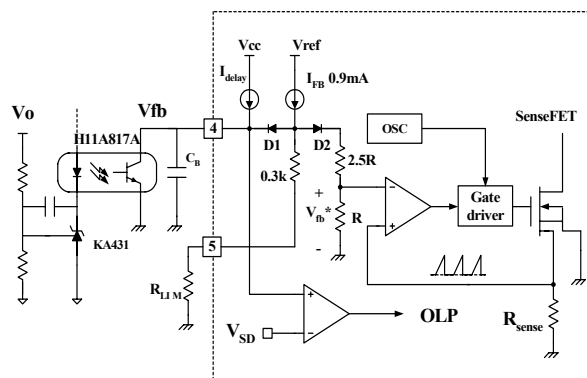

Figure 6. Pulse width modulation (PWM) circuit
**2. Feedback Control** : FSCM0765R employs current mode control, as shown in Figure 6. An opto-coupler (such as the H11A817A) and shunt regulator (such as the KA431) are typically used to implement the feedback network. Comparing the feedback voltage with the voltage across the Rsense resistor makes it possible to control the switching duty cycle. When the reference pin voltage of the KA431 exceeds the internal reference voltage of 2.5V, the H11A817A LED current increases, thus pulling down the feedback voltage and reducing the duty cycle. This event typically happens when the input voltage is increased or the output load is decreased.
**2.1 Pulse-by-pulse current limit:** Because current mode control is employed, the peak current through the Sense FET is determined by the inverting input of PWM comparator ( $V_{fb}^*$ ) as shown in Figure 6. When the current through the opto transistor is zero and the current limit pin (#5) is left floating, the feedback current source ( $I_{fb}$ ) of 0.9mA flows only through the internal resistor ( $R+2.5R=2.8k$ ). In this case, the cathode voltage of diode D2 and the peak drain current have maximum values of 2.5V and 3A, respectively. The pulse-by-pulse current limit can be adjusted using a resistor to GND on current limit pin (#5). The current limit level using an external resistor ( $R_{LIM}$ ) is given by